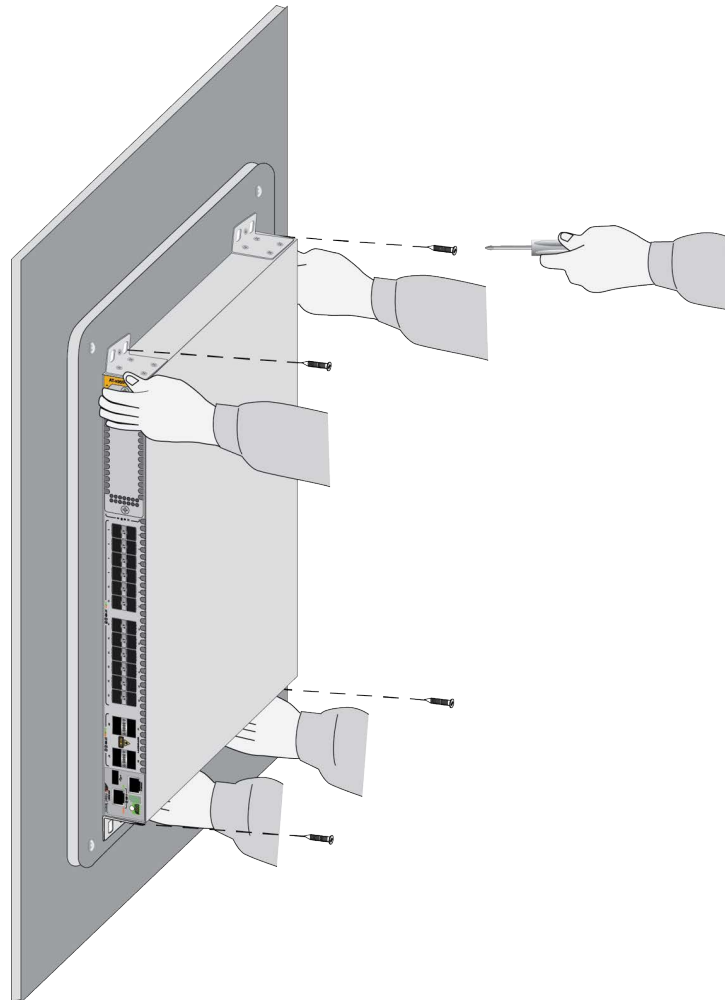

Figure 96. Attaching the Switch to the Plywood Base
3. After attaching the brackets to the side of the switch, have two people hold the switch on the plywood base on the wall while you secure it with the four provided screws. Refer to Figure 96.